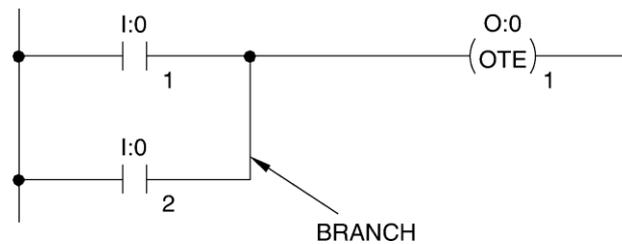

Fig 7. Series and parallel logics.
The ladder rung in Figure 7 is an example of parallel (OR) logic. Parallel logic means that one or another path of true instructions must exist on the rung in order for the output instruction to be true. In Figure 7, at least one of the input instructions XIC I:0/1 **OR** XIC I:0/2 must be true in order for instruction OTE O:0/1 to be true. Parallel logic is programmed by branching instructions in a ladder rung.